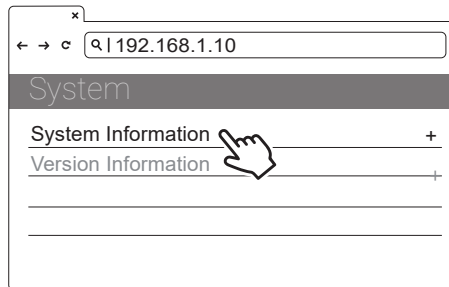

Figure 41. Date and Time Information
- 3) Select: SET | Network | System Information | System DateTime. See Figure 41.